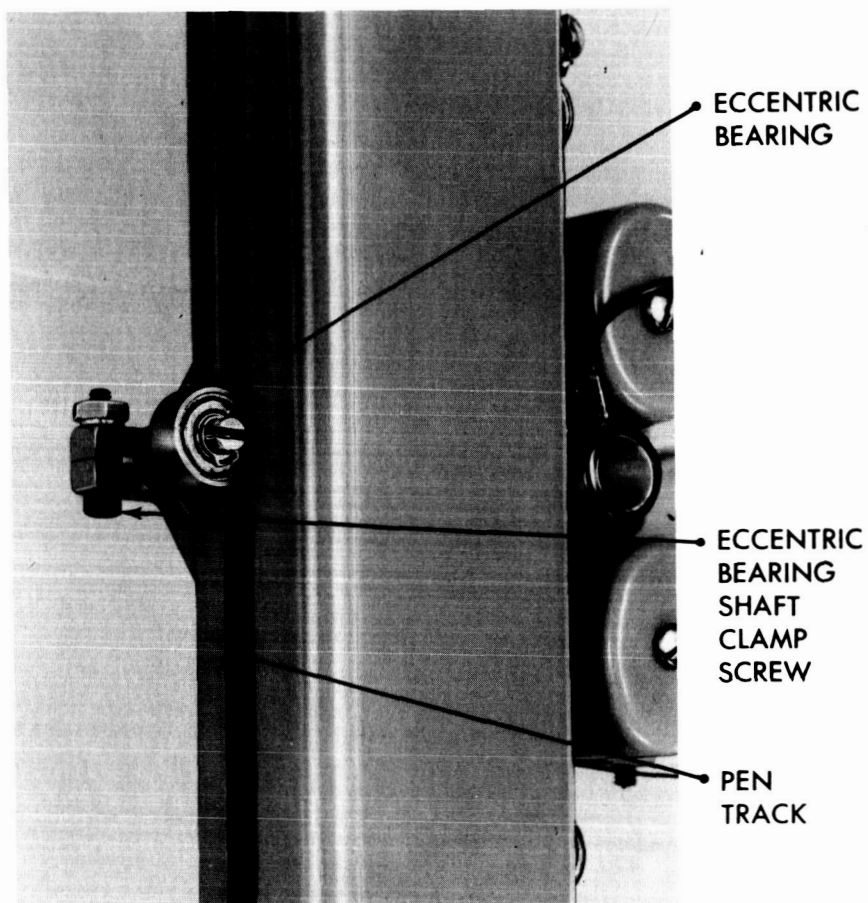

Figure 3-6. Pen Carriage Adjustment.
- a. Loosen the eccentric shaft clamp screw. (See Figure 3-6).